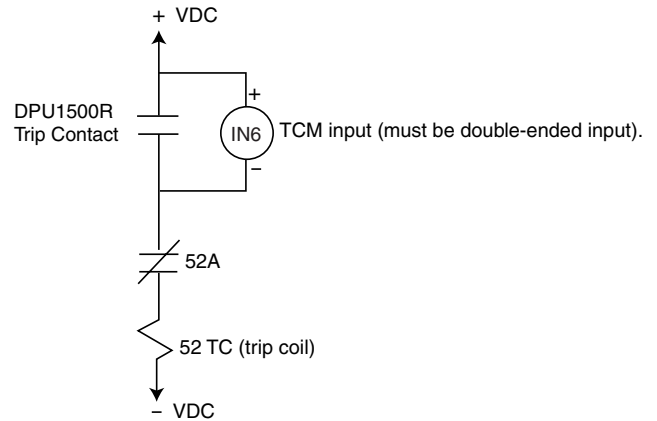

Figure 6-4. Trip Coil Monitoring
Up to six (6) user-programmable output contacts are available. Figure 6-4 shows the Programmable Outputs Menu of the WinECP with some mappings. A solid box means an output contact is mapped.
OUTPUT LABELS: Identifying names can be placed under each of the outputs in the screen shown in Figure 6-4.